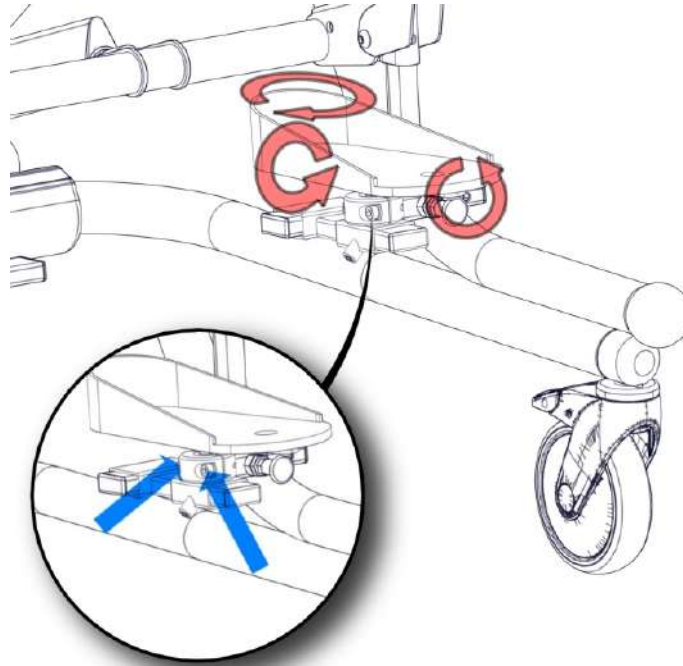

Fig. 26
The 3D Feet System enables effortless regulation of the feet platforms in every direction needed. To change the angle of the platform, the two screws marked by blue pointers should be loosened, the way shown on (Fig. 26), with the help of the Allen key 5mm. After adjusting the platform to the required position, the screws should be tightened.